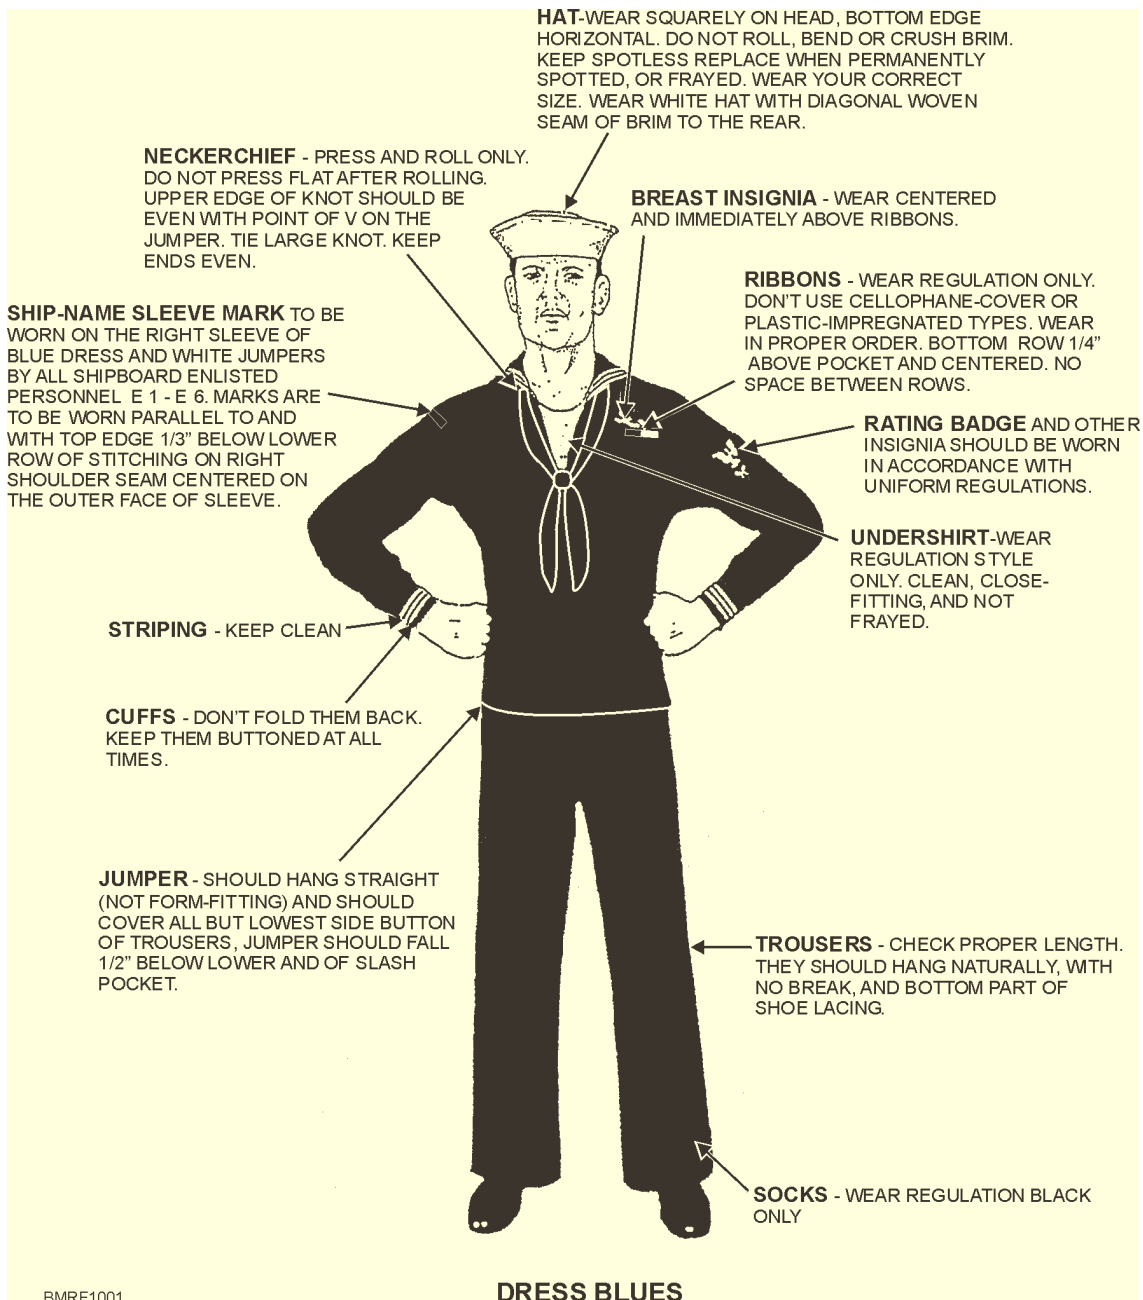

Figure 10-1.—Proper wearing of uniforms.
Look at figures 10-1 and 10-2. Here, most enlisted (E-6 and below) men's uniforms are shown. Uniforms must be tailored according to the specifications in the following paragraphs:
**Hat.** The white hat should be worn squarely on the head, as shown in figure 10-1.